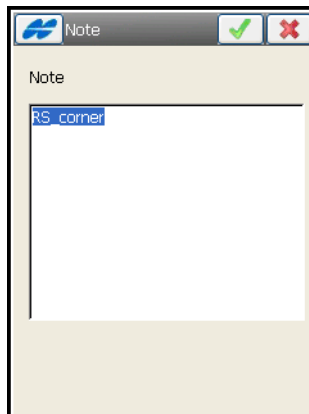

Figure 9-5. Note
- *Note*: opens the **Note** screen (Figure 9-5). The **Note** screen is used for additional information. When exporting raw data (for example, to a TDS Raw Data file), this information is in the *Point Description* field. The note should be entered in the *Note* field. Press the ok  button to store the Note.